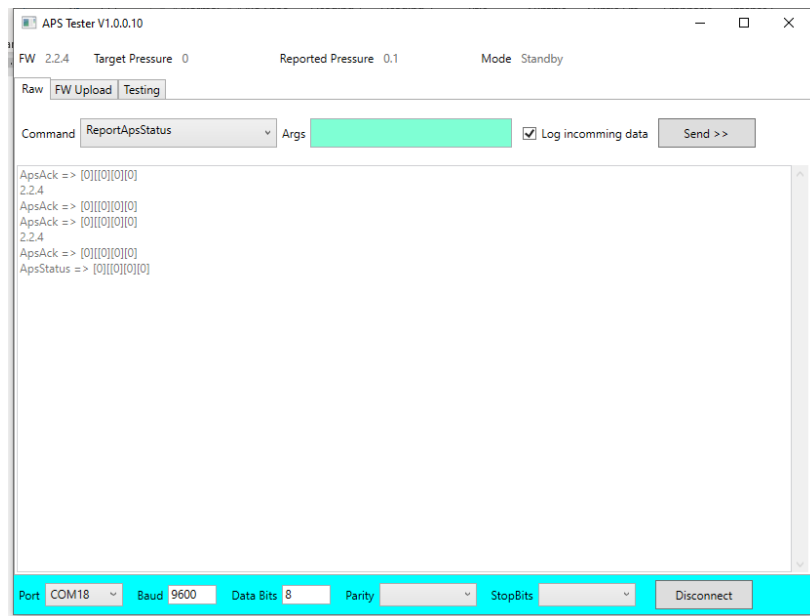

Figure 7: APS status report.
11. Check the status report reports as 'ApsAck => [0][0][0][0]', as shown in figure 7. This indicates the APS valve is working correctly. If you see [1024] in any of the 4 square brackets, contact Izon for support.